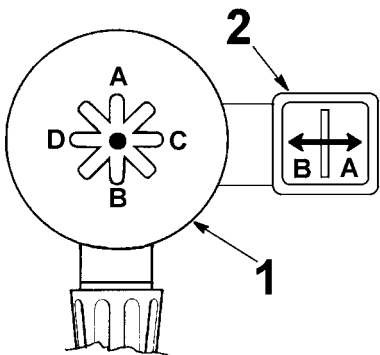

Fig.13
3. Operate the control (#1 fig.13) to position **A**: The chuck arm moves upwards.
Operate the control (#1 fig.13) to position **B**: The chuck arm moves downward.
4. Operate the control (#1 fig.13) to position **C**: The tool holder carriage moves to the right.
Operate the control (#1 fig.13) to position **D**: The tool holder carriage moves to the left.
5. Operate the control (#2 fig.13) to position **A**: The tool holder arm moves to the right.